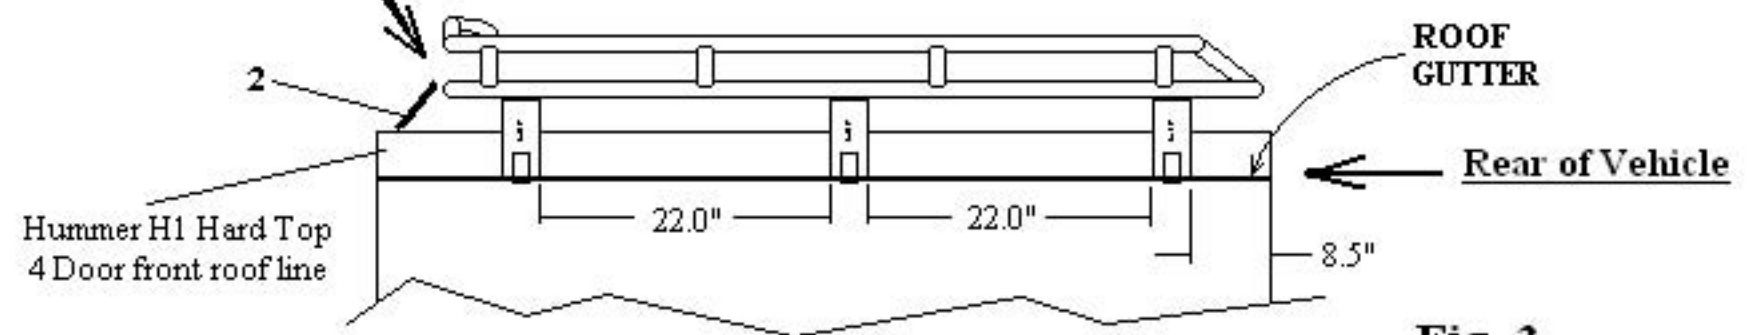

Fig. 3
- 4- Refer to page 4 Fig. 3 and straddle each cross bar (G) with attached support brackets (E) over the vehicle and spread out as shown starting from the rear of the vehicle.